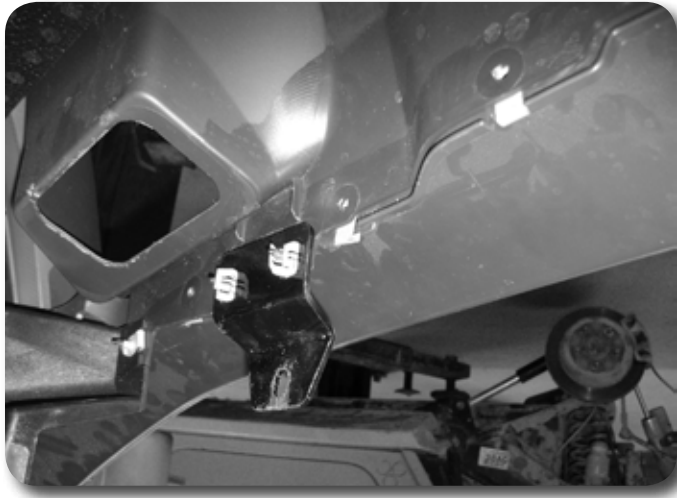

Figure 17
48. Install the lower fascia brackets to the fascia with the OE clips using the original screws. See Figure 17